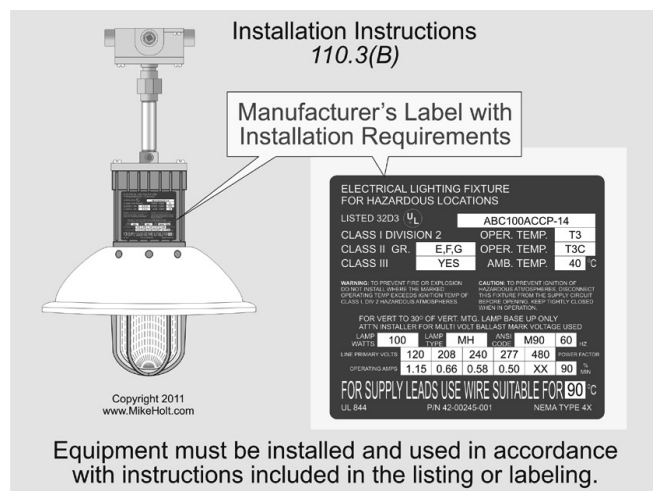

Figure 110–2
- (2) Mechanical strength and durability
- (3) Wire-bending and connection space
- (4) Electrical insulation
- (5) Heating effects under all conditions of use
- (6) Arcing effects
- (7) Classification by type, size, voltage, current capacity, and specific use
- (8) Other factors contributing to the practical safeguarding of persons using or in contact with the equipment
(B) Installation and Use. Equipment must be installed and used in accordance with any instructions included in the listing or labeling requirements. **Figure 110–2**